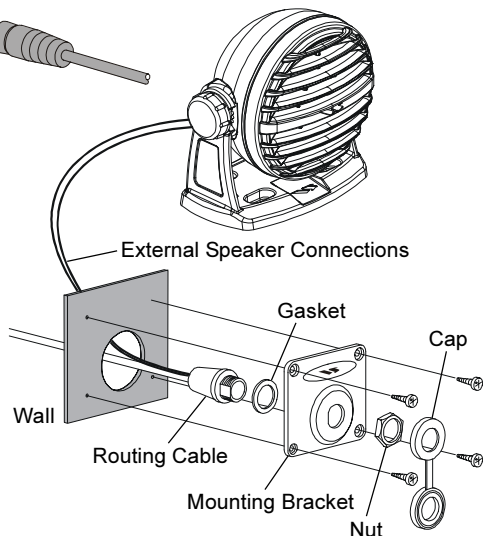

Figure 3
2. Referring to Figure 3, make a 1.2" (30 mm) hole in the wall, then insert the Routing Cable into this hole. Connect the Gasket and Mount Base to the Routing Cable Connector using the Nut.